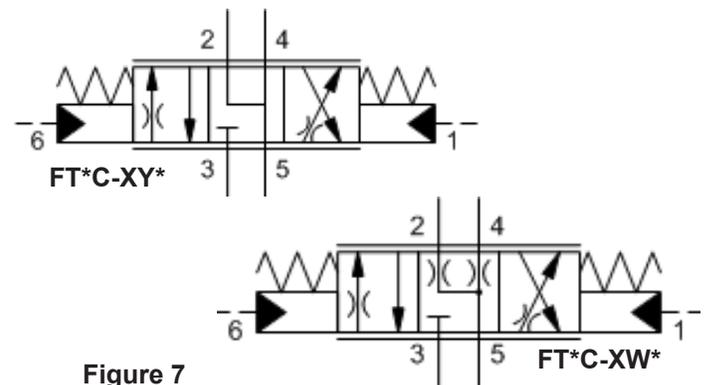

Figure 7
- **Figure 7** shows the two spool center configurations that are available: